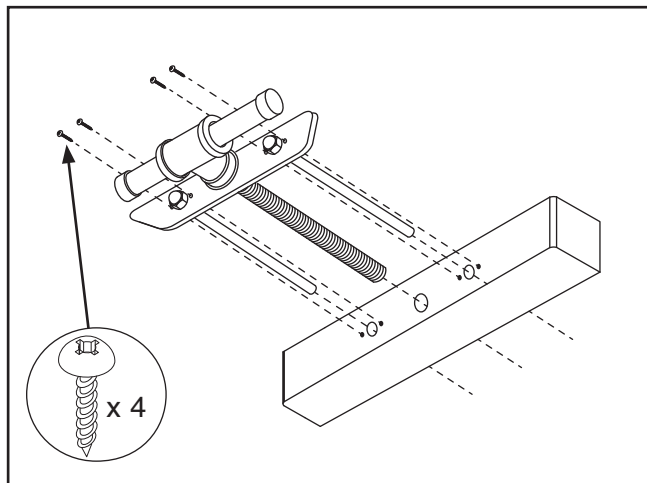

Figure 12. Assembling vise components.
12. Feed front vise leadscrew assembly through front vise head and attach with (4) M6 x 30 tap screws (see **Figure 12**).